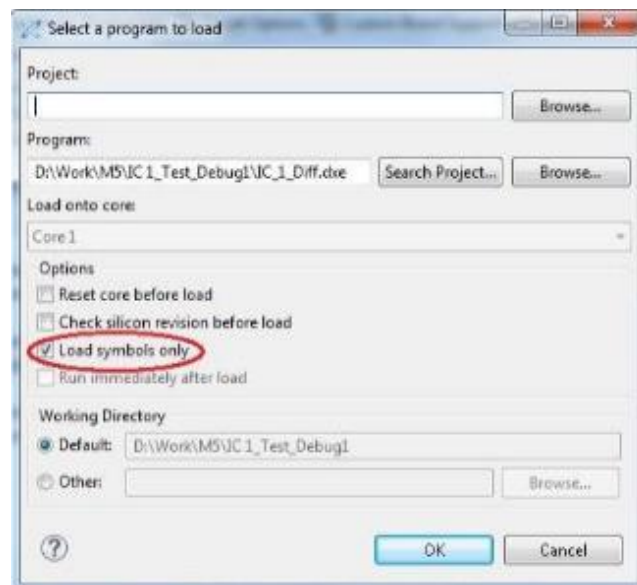

Figure 30: Load the schematic DXE
15. Double click on 'IC_1_Diff.dxe' of Core 1 and uncheck everything except 'Load Symbols only' after load' option as shown in the Figure 30. Repeat the same for 'IC_2_Diff.dxe' for Core 2.